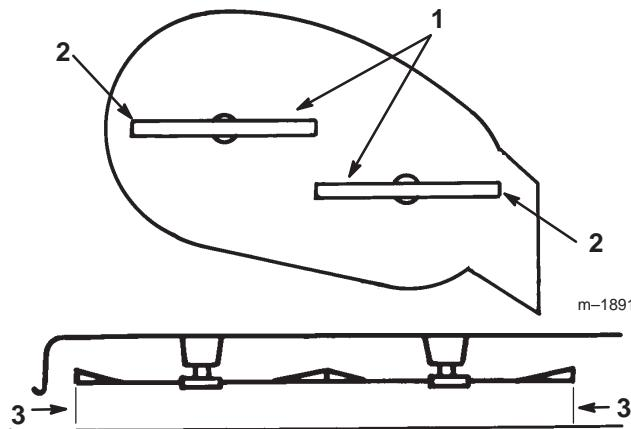

Figure 47
3. Carefully rotate the blade(s) side to side (Fig. 47). Measure between the outside cutting edges and the flat surface (Fig. 47). If both measurements are not within 3/16 in. (5 mm), an adjustment is required; refer to steps 4 and 5.